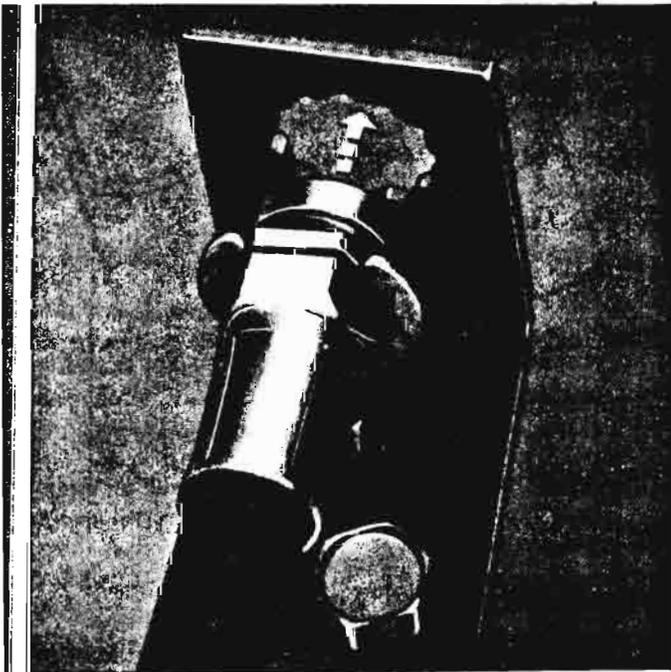

Fig. 5-7—Brake Line Support Bracket
3. With weight of car on wheel and suspension in normal position (front wheels straight ahead) pass female end of hose through support bracket, allowing hose to seek its own position. Insert hex of hose fitting into the 12 point hole in support bracket in position which induces least twist to hose (fig. 5-7).